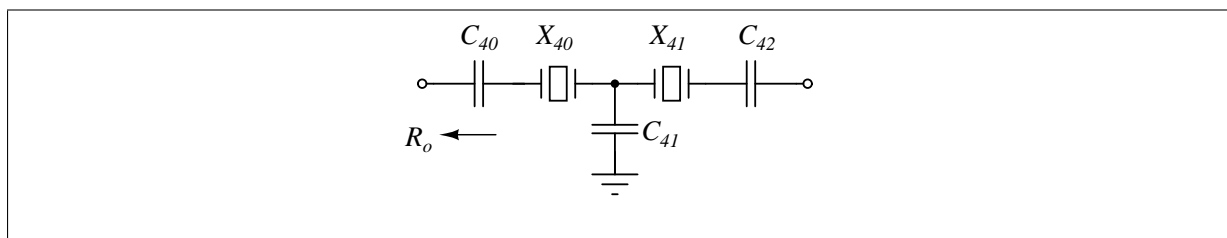

Figure 4: IF Filter schematic.
1. The IF filter of TRC-11 is given in Fig. 4. Start building the filter by placing the crystal X40 and its corresponding series capacitor C40 in their places. Solder them.